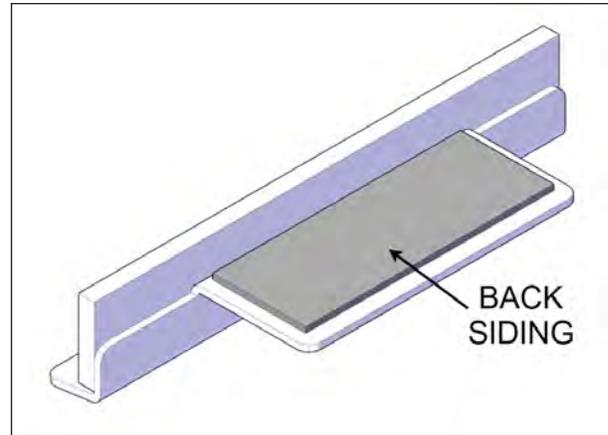

FIGURE 111: WIPER
2. Peel back the red siding of the double-sided tape of one wiper see Figure 111.